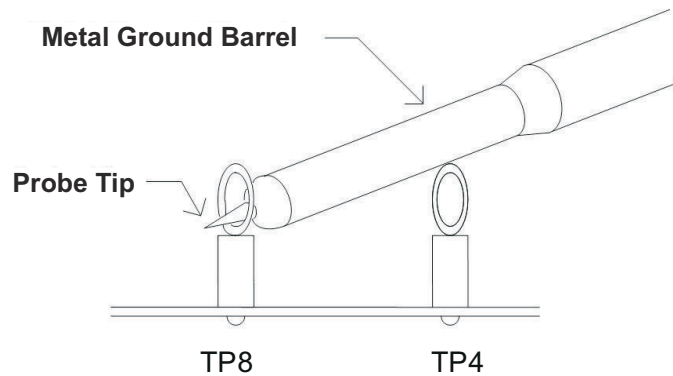

Figure 4-1. Tip and Barrel Measurement for Output Voltage Ripple
For output ripple measurements, TP8 and TP4 allow a user to limit the ground loop area by using the tip and barrel measurement technique shown in Figure 4-1.
For output ripple measurements, TP7 and TP6 allow a user to limit the ground loop area by using the tip and barrel measurement technique shown in Figure 4-1.
5. Connect the oscilloscope probe to TP8 and TP4 for V_{OUT1} , or TP7 and TP6 for V_{OUT2} as shown in Figure 4-1.